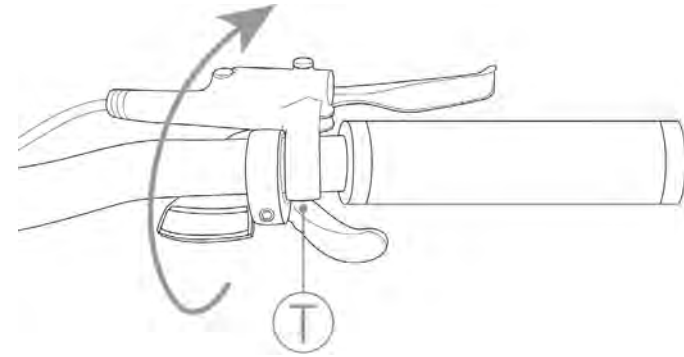

FIG. 15
- Rotate the brake lever using the clamping screw (Ref. T – Figure 15) until you reach a comfortable position of the hand.